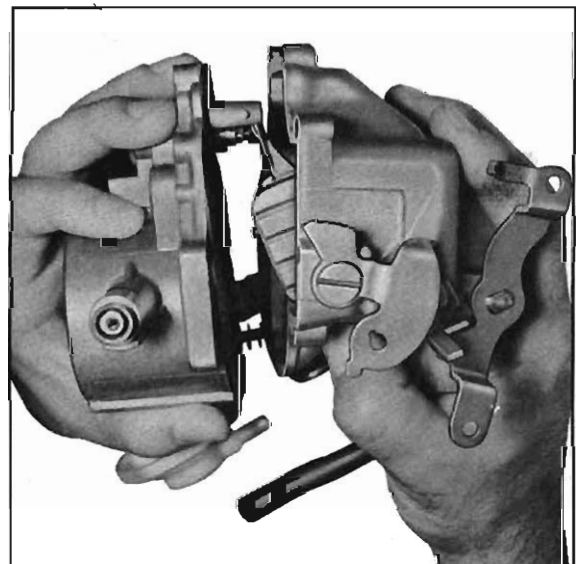

Fig. 9-13—Removing Bowl Cover
4. Remove remaining bowl cover attaching screws then remove cover assembly and gasket (fig. 9-13).